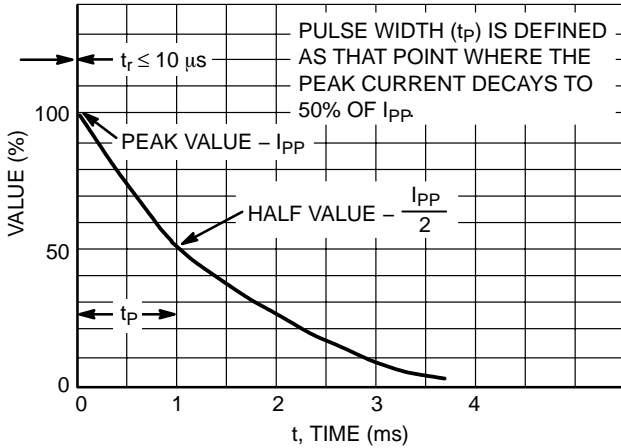
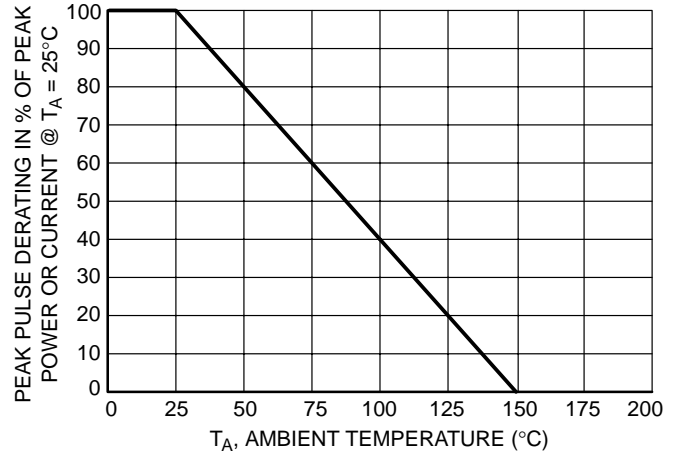

Figure 5. Pulse Waveform
Figure 6. Pulse Derating Curve
1. Non-repetitive current pulse per Figure 5 and derate above $T_A = 25^\circ\text{C}$ per Figure 6.
6. Surge current waveform per Figure 5 and derate per Figure 6